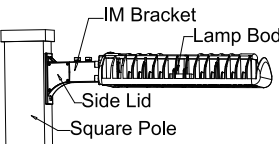

Figure 11-2
1. Let the power cable in the front part of the IM bracket go through the back part. Sheath the front part to the back part and fix them with top bolt. Connect the power cable with pole cable, make sure good protection on the wire connection and put the wire in the back part. Close the side lid and tighten it, (Figure 11-2) then finish installation.